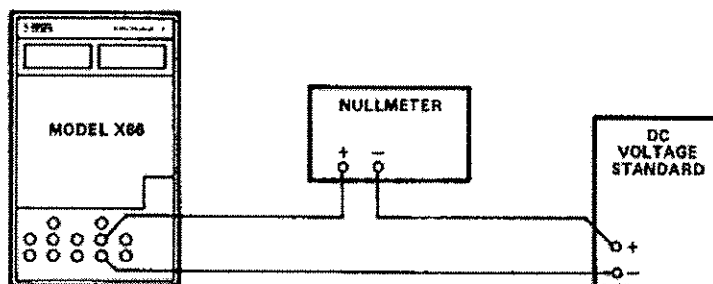

Figure 6-4: Voltage Output Measurement
a) Connect the Model X86 Portable Calibrator, the dc voltage standard and the nullmeter as shown in Figure 6-4. All potentiometer adjustments referred to in this section are located on PC board X86-1003.
- a) Reconnect the two test leads to the dc voltage standard as shown in Figure 6-4.